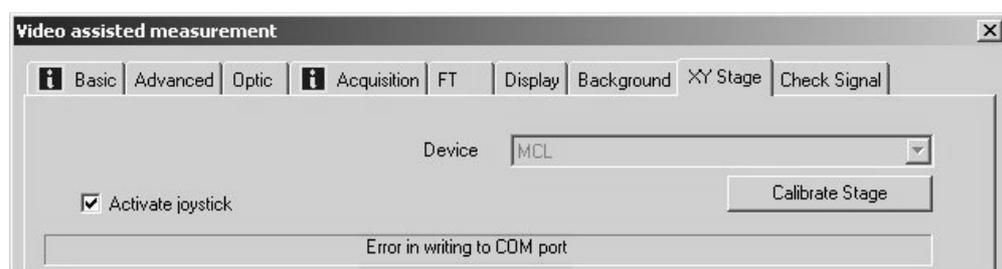
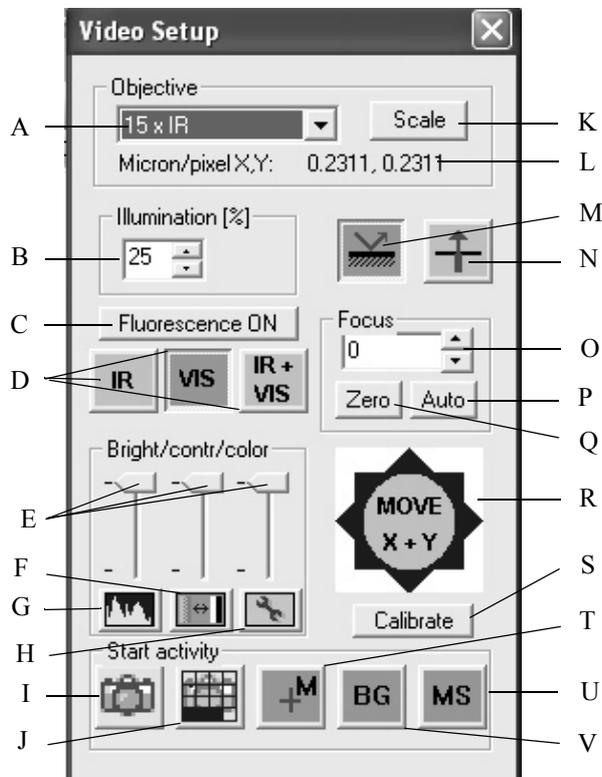

Figure 30: Error Message – Communication Error
Figure 38: Video Setup Dialog Box (in case of an IR Microscope)
If you have an external LANG controller connected to your x/y sample stage, MCL will appear grayed in the *Device* drop-down list. In case of a communication error between controller and computer, the message *Error in writing to com port* will be displayed. (See figure 30.) A communication error can occur, for example, if the controller has been connected to the wrong serial port or if the joystick switch on the front panel of the LANG controller is set to *H* instead of *A*.
In case the x/y sample stage is controlled by a LSTEP card, bear in mind that after each computer reboot, the software ‘forgets’ the current stage position because OPUS does not store it. Therefore, after each computer reboot do not forget to recalibrate the stage. To do this, click either in the *Video assisted measurement* dialog window → page *XY Stage* on the *Calibrate Stage* button (figure 30) or in the *Video Setup* dialog box on the *Calibrate* button (figure 38).
In order to switch between reflectance and transmittance mode, you can either use the microscope control panel buttons or click on the respective buttons in the *Video Setup* dialog box (figure 38).
Note that you have to activate the *Can read Frontpanel* check box in the *Select possible Options* dialog box (figure 10) in order to read the status of the front-panel. The (left) reflectance mode button (figure 38) is only visible if you have activated the *Reflection* check box in the *Select Available Optical Options* dialog box (figure 12).
- using the corresponding slider (E in figure 38), provided the camera has a DirectDraw interface,
- using the *Contrast* button (F in figure 38) and
- using the dialog box of the corresponding camera driver which is invoked by clicking on the button H in figure 38. (Note that this contrast setting is not managed by OPUS.)